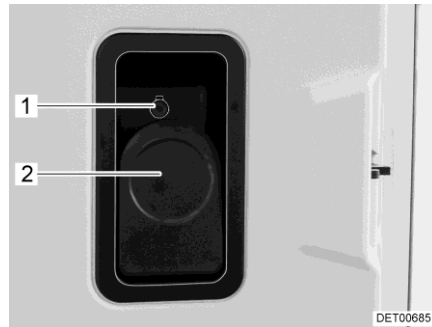

Fig. 41 Door lock (conversion door, inside)
- Opening:* ■ Pull the lever (Fig. 41,2).
- Locking:* ■ Push in the safety knob (Fig. 41,1).